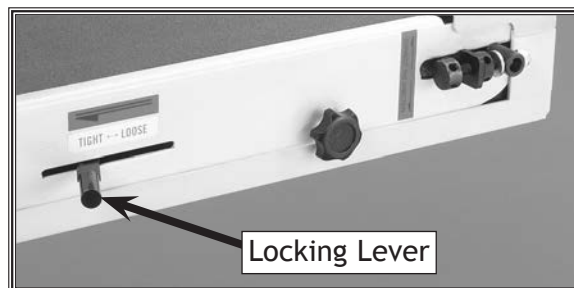

Figure 23. Belt locking lever.
2. Make sure all guards are in place and the belt locking lever is in the locked position as shown in **Figure 23**.